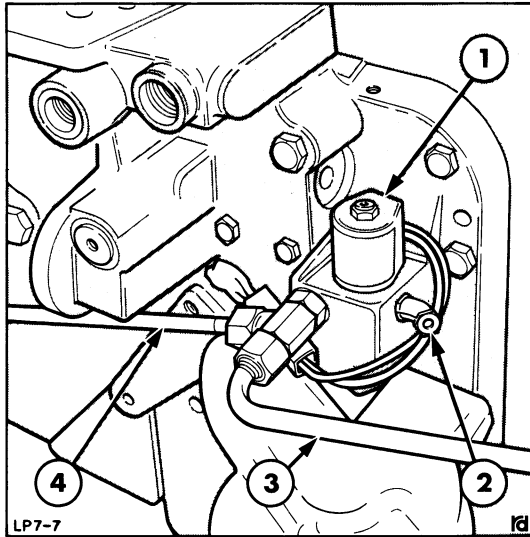

Figure 7
2. Remove the plug from the upper test port adjacent to the differential lock solenoid , Figure 7.